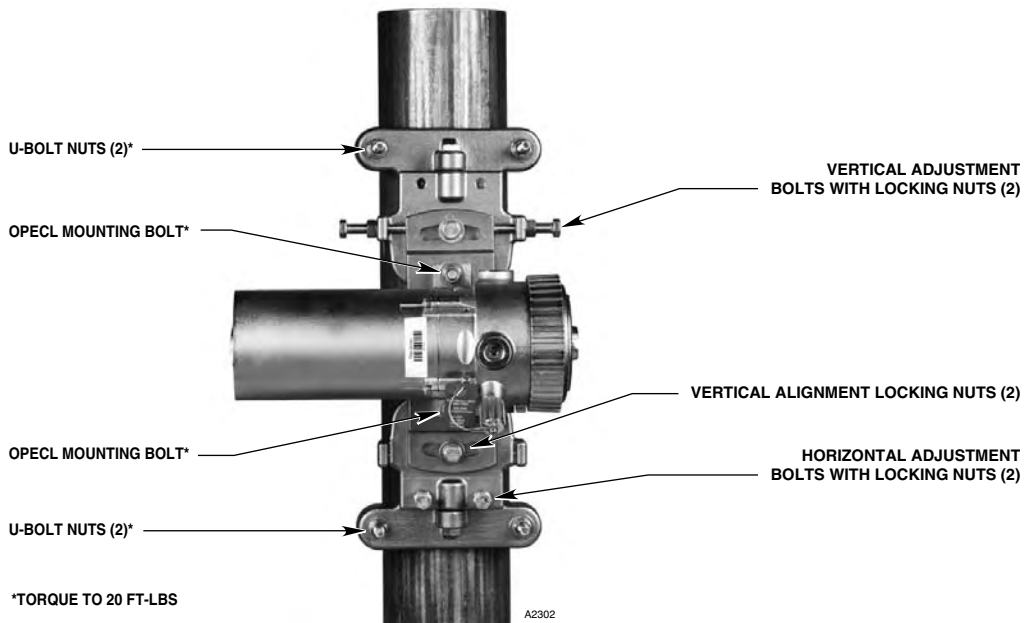

Figure 16—OPECL Mounting and Alignment Hardware
3. Loosen the locking nuts on the alignment adjuster bolts so that the bolts can be freely tightened or loosened for alignment purposes. Loosen, then hand-snug the two vertical alignment locking nuts. See Figure 16. At this point, the unit should be easily adjustable in the vertical and horizontal positions with little or no adjustment slop.